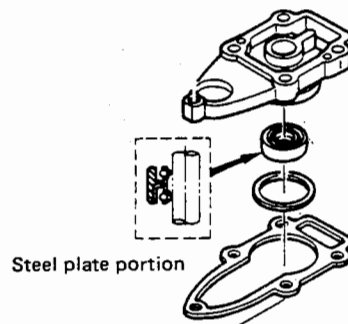

Fig.12.3
2. In this case, be careful that the oil seal steel plate portion is directed toward the gear case as shown in Fig. 12.3.